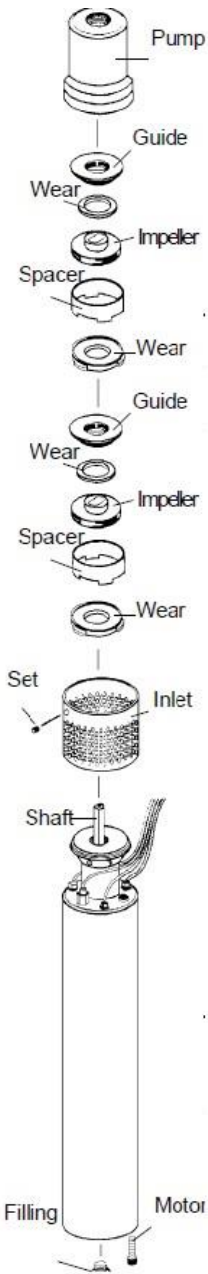

Figure 5: Pump Assembly
There is no recommended preventative maintenance for pump components. Reduced pump performance may be indicative of wear, especially if pumping suspended solids. See page 8 - "Checking the impellers for wear". Disassemble the pump end impeller assembly (see figure 5, page 9) and examine for wear according to the following:
- Remove the Inlet Screen, Pump Housing, and the impeller assembly (see Figure 5). Try to spin the motor shaft by hand. It should spin freely. If it does not, the motor must be replaced.
There is no recommended preventative maintenance for pump components. Reduced pump performance may be indicative of wear, especially if pumping suspended solids. Disassemble the pump end impeller assembly (see figure 5) and examine for wear according to the following:
1. **Re-assembly** (refer to figure 5)